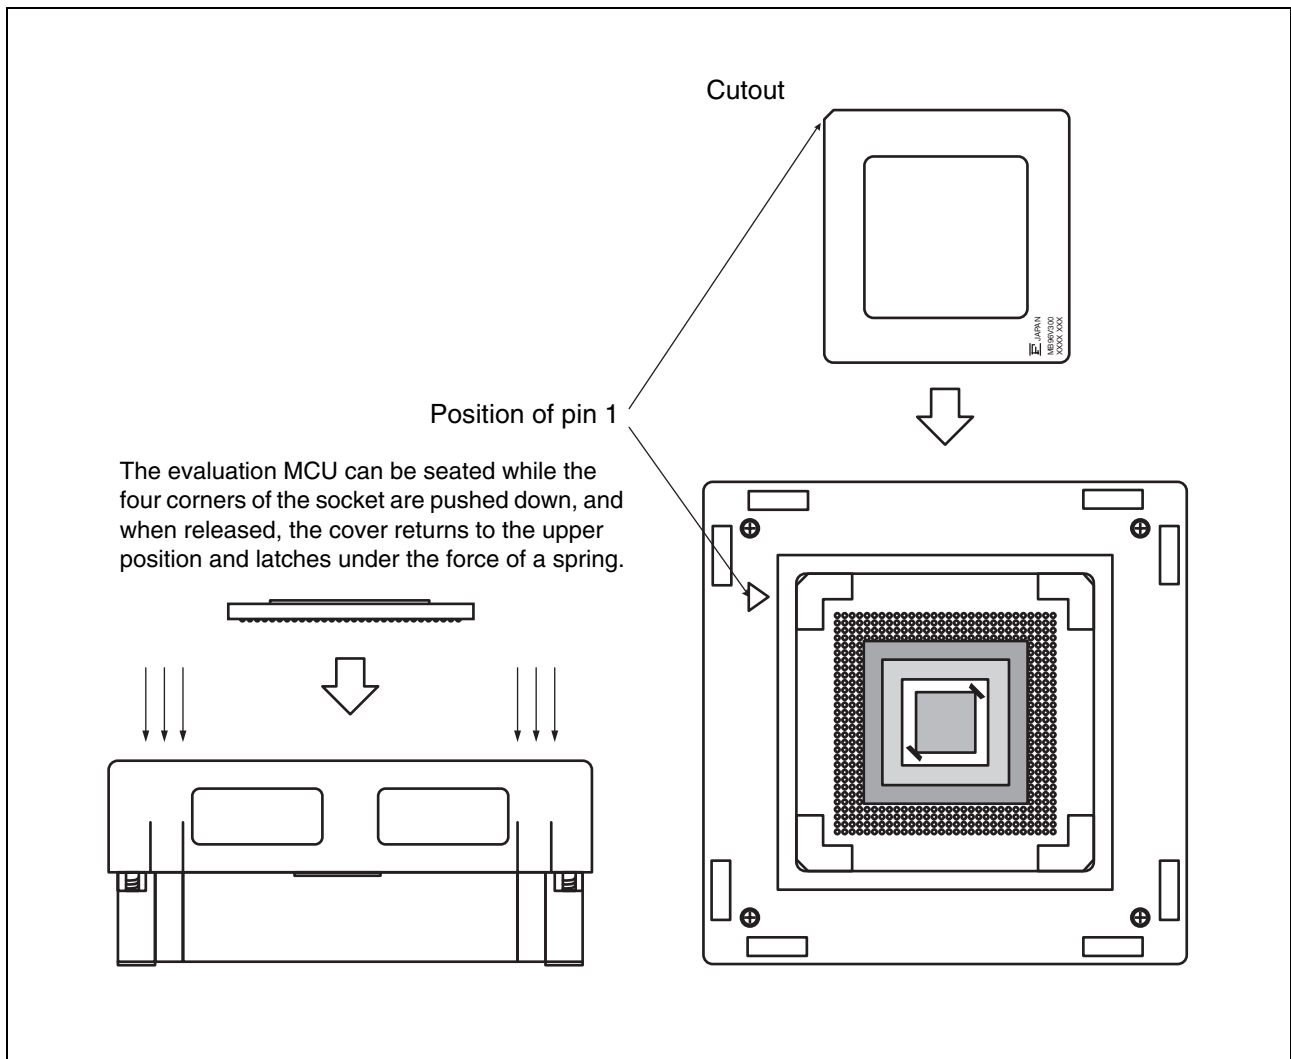

Figure 5 Mounting the evaluation MCU
- (1) Push down on the four corners of the cover of the evaluation MCU IC socket (SC1) (see the left side of Figure 5).
- (2) Align the cutout corner of the evaluation MCU with location of pin 1 of the IC socket (SC1) and insert the evaluation MCU keeping it horizontal (see the right side of Figure 5).
- (3) When the cover of the IC socket for mounting the evaluation MCU (SC1) that was pushed down is released, it returns to the upper position under the force of a spring and locks the evaluation MCU into the IC socket (see the left side of Figure 5).
- (4) When removing the evaluation MCU, push down the cover the same as in Step (1) and remove the evaluation MCU (see the left side of Figure 5).